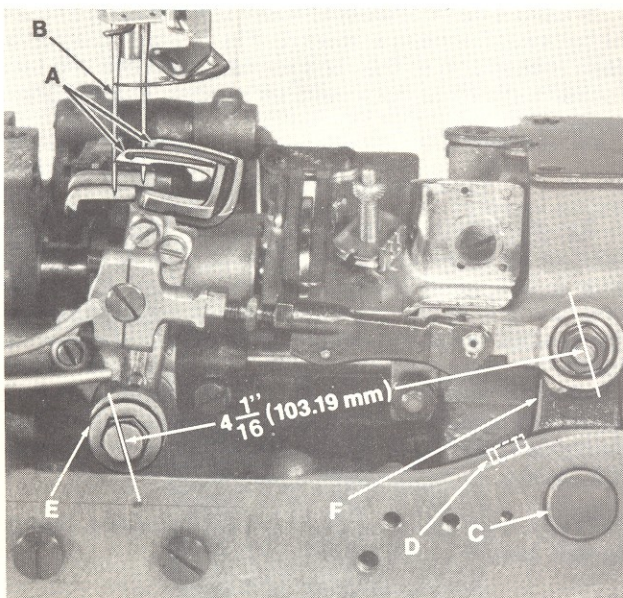

FIGURE 3
Insert the loopers (A, Fig. 3) in the looper rocker, pushing them all the way down and tighten screws against flat on shanks of loopers. Turn handwheel in operating direction until the point of the front looper, moving to the left is even with the left side of the left needle (B). Note the height of the eye of the needle with respect to the looper point, then turn handwheel in the reverse direction until the looper point again moves to the left, and is even with the left side of the needle. If the motions synchronize, the height of the eye of the needle with respect to the looper point will be the same. A variation of .005 inch (.127 mm) is allowable. If the distance from the eye of the needle to the point of the looper is greatest when the pulley is
With the looper at the extreme right end of its travel, check the location of the centerline of the right looper connecting rod bearing, using gauge No. 21227 CX and place hole in gauge over threaded stud. The left end of the gauge should locate against the right side of the looper rocker cone (E). If adjustment is necessary, loosen the clamp screw (D) and reposition the looper drive lever (F) as required. Tighten clamp screw. If gauge is not available, setting can be checked with a scale. The distance between the centerline of the looper rocker cone and the centerline of the looper lever stud should be  $4 \frac{1}{16}$  inches (103.19 mm) (Fig. 3).